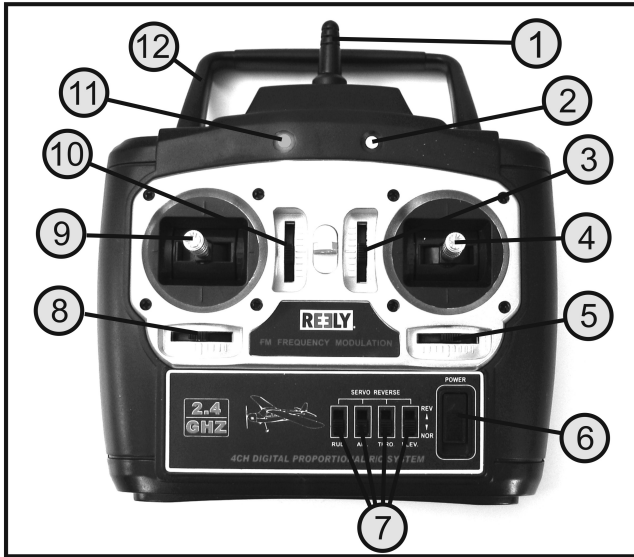

Figure 2
Nevertheless, before using the transmitter, always make sure that the motor function control stick (see fig. 2, item. 9) is in the "Motor off" position. For this, the control lever must be pushed all the way to the bottom-most position.
When new batteries or freshly charged rechargeable batteries have been inserted, switch on the transmitter with the function switch (see figure 2, pos. 6) for test purposes. The red and green light diode (see figure 2, pos. 2 and 11) light up and signal that way that the transmitter is sufficiently supplied with power.
If the power supply is no longer sufficient for proper operation of the transmitter (below 8.3 V), the red light diode (see figure 2, pos. 11) starts to flash. In this case, stop operation of your model as quickly as possible.
- Slide the trim slider for the elevator and fin unit (see figure 2, pos. 3 and 5) into central position and check the position of the rudder flaps on the tail unit.
If the elevator reacts opposite to the function described above, you may change the direction of the elevator servo with the reverse switch (see figure 2, pos. 7). There is a separate switch for each control channel. The elevator direction is switched with the 2nd switch from the left (CH2).